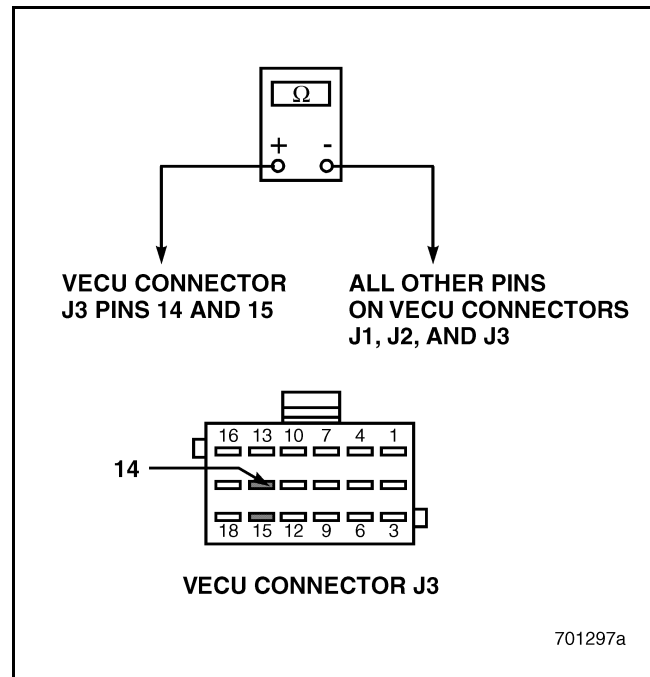

Figure 634
5. Check for continuity between Vehicle Electronic Control Unit (VECU) connector J3 pins 14 and 15 versus all other pins on VECU connectors J1, J2 and J3 (see Figure 634).